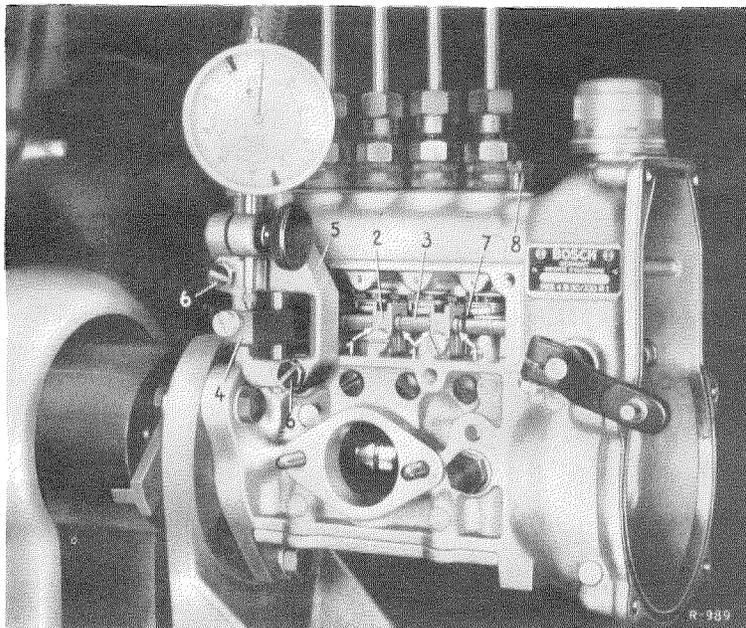

Figure 07-5/6
Note: With the OM 621, it is not possible to go on turning to TDC when the measuring device is mounted, because the feeler (4) of the measuring device strikes the control rod (3) (see Figure 07-5/6a).
The needle (8) at the graduation scale of the test stand has to be adjusted to a number favorable for further testing (see Figure 07-5/3).